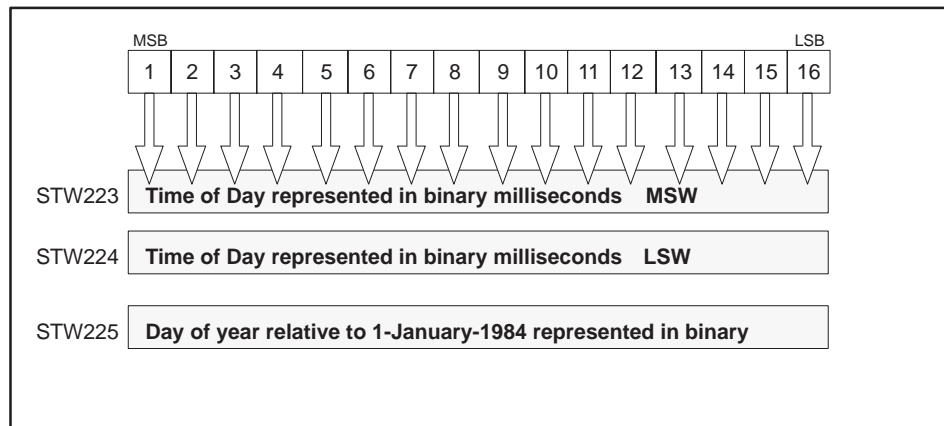

Figure 5-18 Binary Time of Day
**Binary Time of Day** Binary time of day is contained in status words STW223 through STW225. STW223 and STW224 contain a 32-bit binary representation of the relative millisecond of the current day. STW225 contains a 16-bit binary representation of the current day relative to 1-January-1984 (day 0). Figure 5-18 shows the binary time-of-day status words.